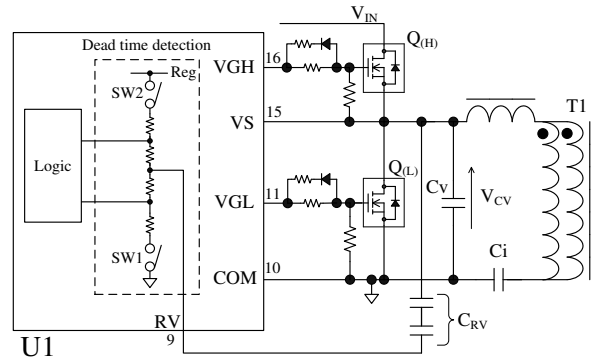

Figure 8-19. RV Pin Peripheral Circuit and Dead Time Detection Circuit
Figure 8-19 shows the RV pin peripheral circuit and the internal dead time detection circuit. The external components for this function is only high-voltage ceramic capacitor,  $C_{RV}$ , connected between the VS pin and the RV pin. The value of  $C_{RV}$  is about 5 pF.
After  $Q_{(L)}$  turns off, SW2 is turned on while SW1 is kept on state. The resonant current flows through  $C_V$ ,  $C_i$  and T1 (refer to Figure 8-19) and the  $C_V$  voltage,  $V_{CV}$ , increases from 0 V. When  $V_{CV}$  becomes Equation (11), the resonant current flows through the body diode of  $Q_{(H)}$  and  $V_{CV}$  is clamped  $V_{IN} + V_{F(H)}$ . The period that until  $V_{CV}$  is clamped after  $V_{CV}$  starts to increase is defined as the voltage resonant period.
• **Q(H) Turns Off**
After Q(H) turns off, SW1 is turned on while SW2 is kept on state. The resonant current flows through Cv, Ci and T1 (refer to Figure 8-19) and the Cv voltage, VCV, decrease from the input voltage, VIN. When VCV becomes Equation (12), the resonant current flows through the body diode of Q(L) and VCV is clamped - VFL. The period that until VCV is clamped after VCV starts to decrease is defined as the voltage resonant period.